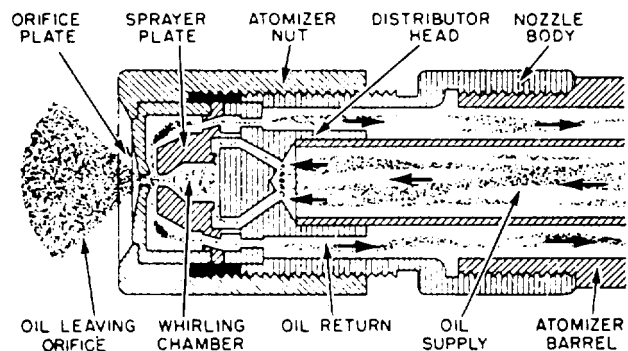

Figure 4-14.—Return-flow atomizer.
**Return-Flow Atomizer.**— The return-flow atomizer provides a constant supply of fuel-oil pressure. Any fuel oil not needed to meet steam demand is returned to the fuel-oil service tank. This is accomplished by the return control valve installed in the piping between the boiler front and the service tank. As the return control valve is closed, more fuel oil is forced through the sprayer plate into the furnace. The return-flow atomizer is shown in figure 4-14.